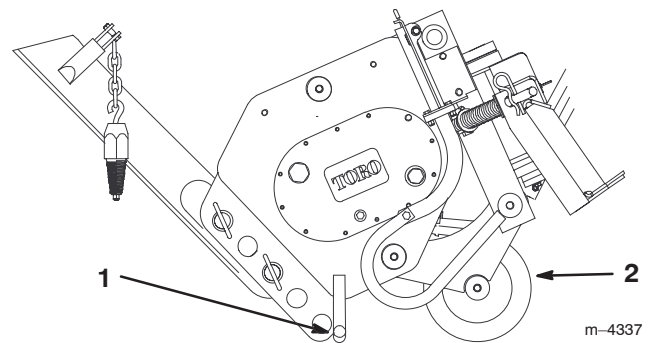

Figure 3
3. Swing the blade up and secure it as illustrated in Figure 3.
4. Tilt the plow forward and lower it to the ground or trailer, with the stand and coulter supporting the weight of the plow (Fig. 3).